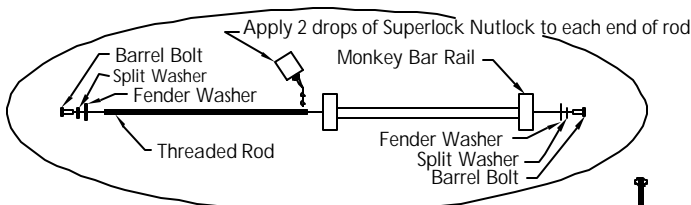
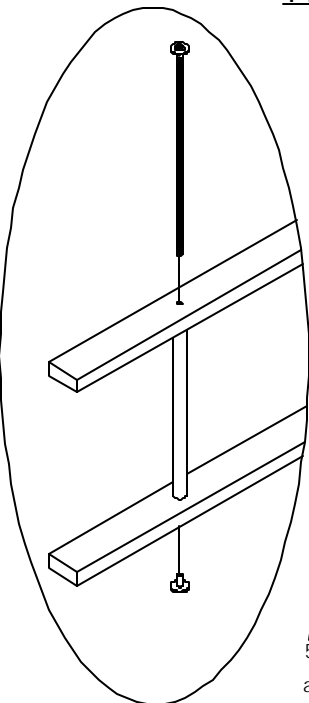

FIG. 7
FIG. 8
Step 1: Gather Top Ladder 'B', End Ladder 'C', (2) Triangle Braces & (1) Bottle of Superlock Nutlock
Step 2: Secure Top Ladder Rails & End Ladder Rails with Barrel Bolt & Threaded Rod. (See fig. 7 & fig. 8)